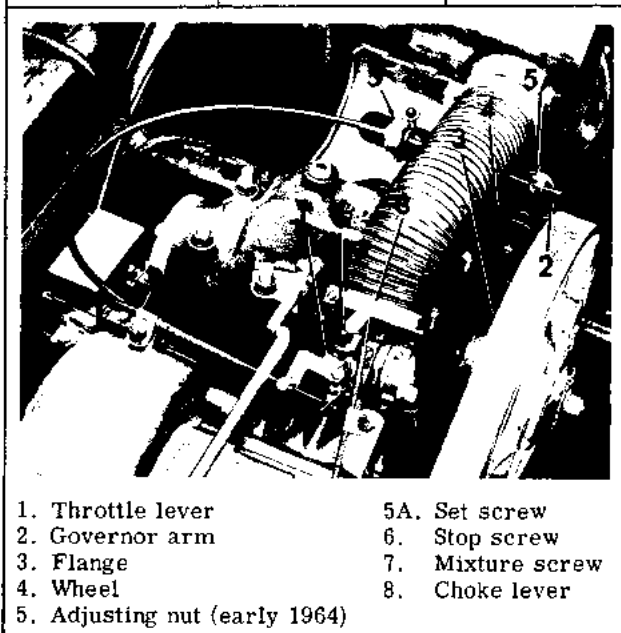

Figure 3F-34. Throttle and governor Controls
Adjust throttle control cable as follows: With cable free in accelerator pedal lever swivel block (set screw loose), depress accelerator pedal all the way to the floor. Adjust cable in casing so that throttle can open fully with 1/16" clearance between cable ferrule and swivel block as shown in Figure 3F-34A. Tighten accelerator lever swivel block set screw in this position. Release accelerator pedal slowly to see that carburetor throttle lever returns all the way closed against throttle stop screw.
Up to late 1964 model cars, the maximum speed is adjusted by means of the cable adjuster located on bracket between gear box and air filter. Turn adjusting nut (5) forward to reduce maximum speed or rearward to increase maximum speed. On late 1964 to 1966 cars the cable is secured to air cleaner bracket with a clamp (Fig. 3F-34C). To adjust maximum speed, loosen set screw 5A and adjust cable.
Adjust governor control cable as follows: With cable free in governor lever swivel block (set screw loose) and governor wheel against rear floating flange, ferrule on governor wire should be approximately 1-1/8 inches away from carburetor lever swivel block with throttle closed as shown in Figure 3F-34B. This is a rough setting. Fine adjustment of maximum speed should be made, when car is operated, as previously described.